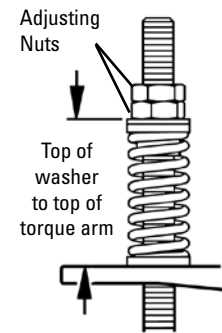

Fig. 6U
- Set spring length to determined length (Fig. 6U). **IMPORTANT:** Always be sure there is uniform contact between blade and belt.